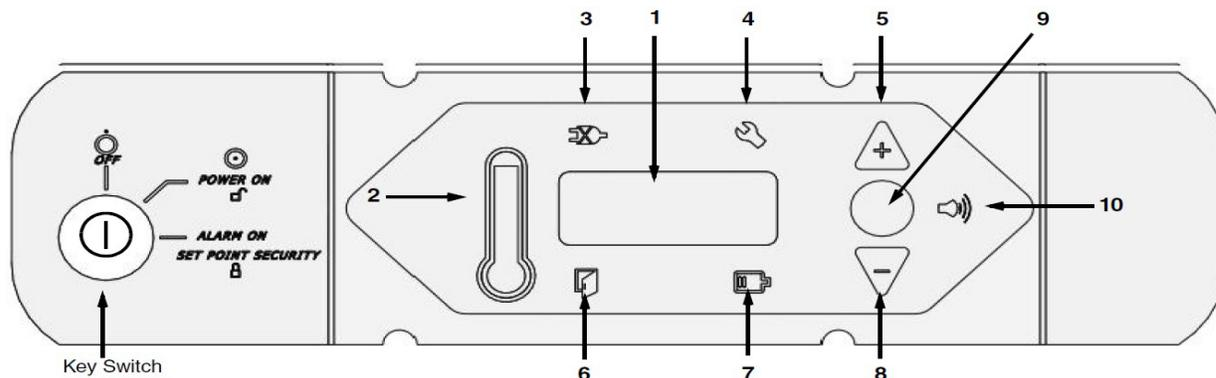

Figure 5. Refrigerator Control Panel
The control panel is located on the top right side of your refrigerator. You can use the three pushbuttons (#5, #8, and #9 in Figure 5) to change the temperature display (#1) or to adjust temperature and alarm setpoints. The thermometer display (#2) provides a quick visual indicator of current cabinet temperature and alarm conditions.
3. When simulated temperature exceeds the warm alarm setpoint, the alarm sounds and the alarm icon on the control panel illuminates (#10 in Figure 5).